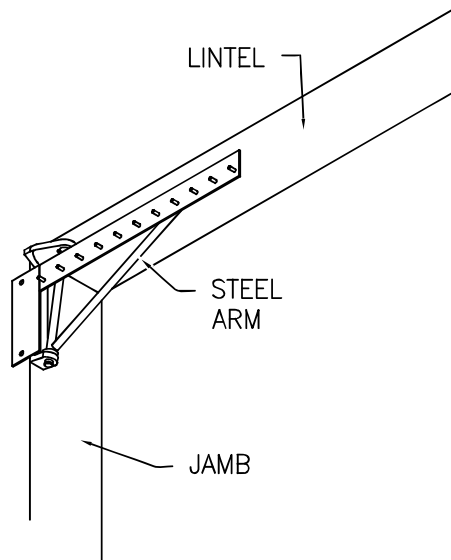

FIG. 5b
- a. Place hinge bracket assembly onto jamb along corner and flush to lintel (Fig. 5b).